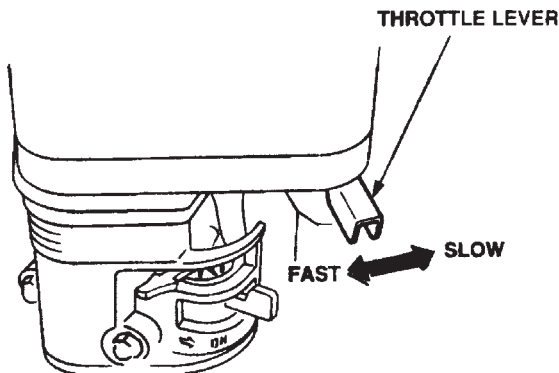

Figure 22. Throttle Lever (Run Position)
9. To begin troweling, move the throttle lever (Figure 22) toward the "**FAST**" position.
1. Move the throttle lever to the **IDLE** or **SLOW** position (Figure 22) and run the engine for three minutes at low speed.